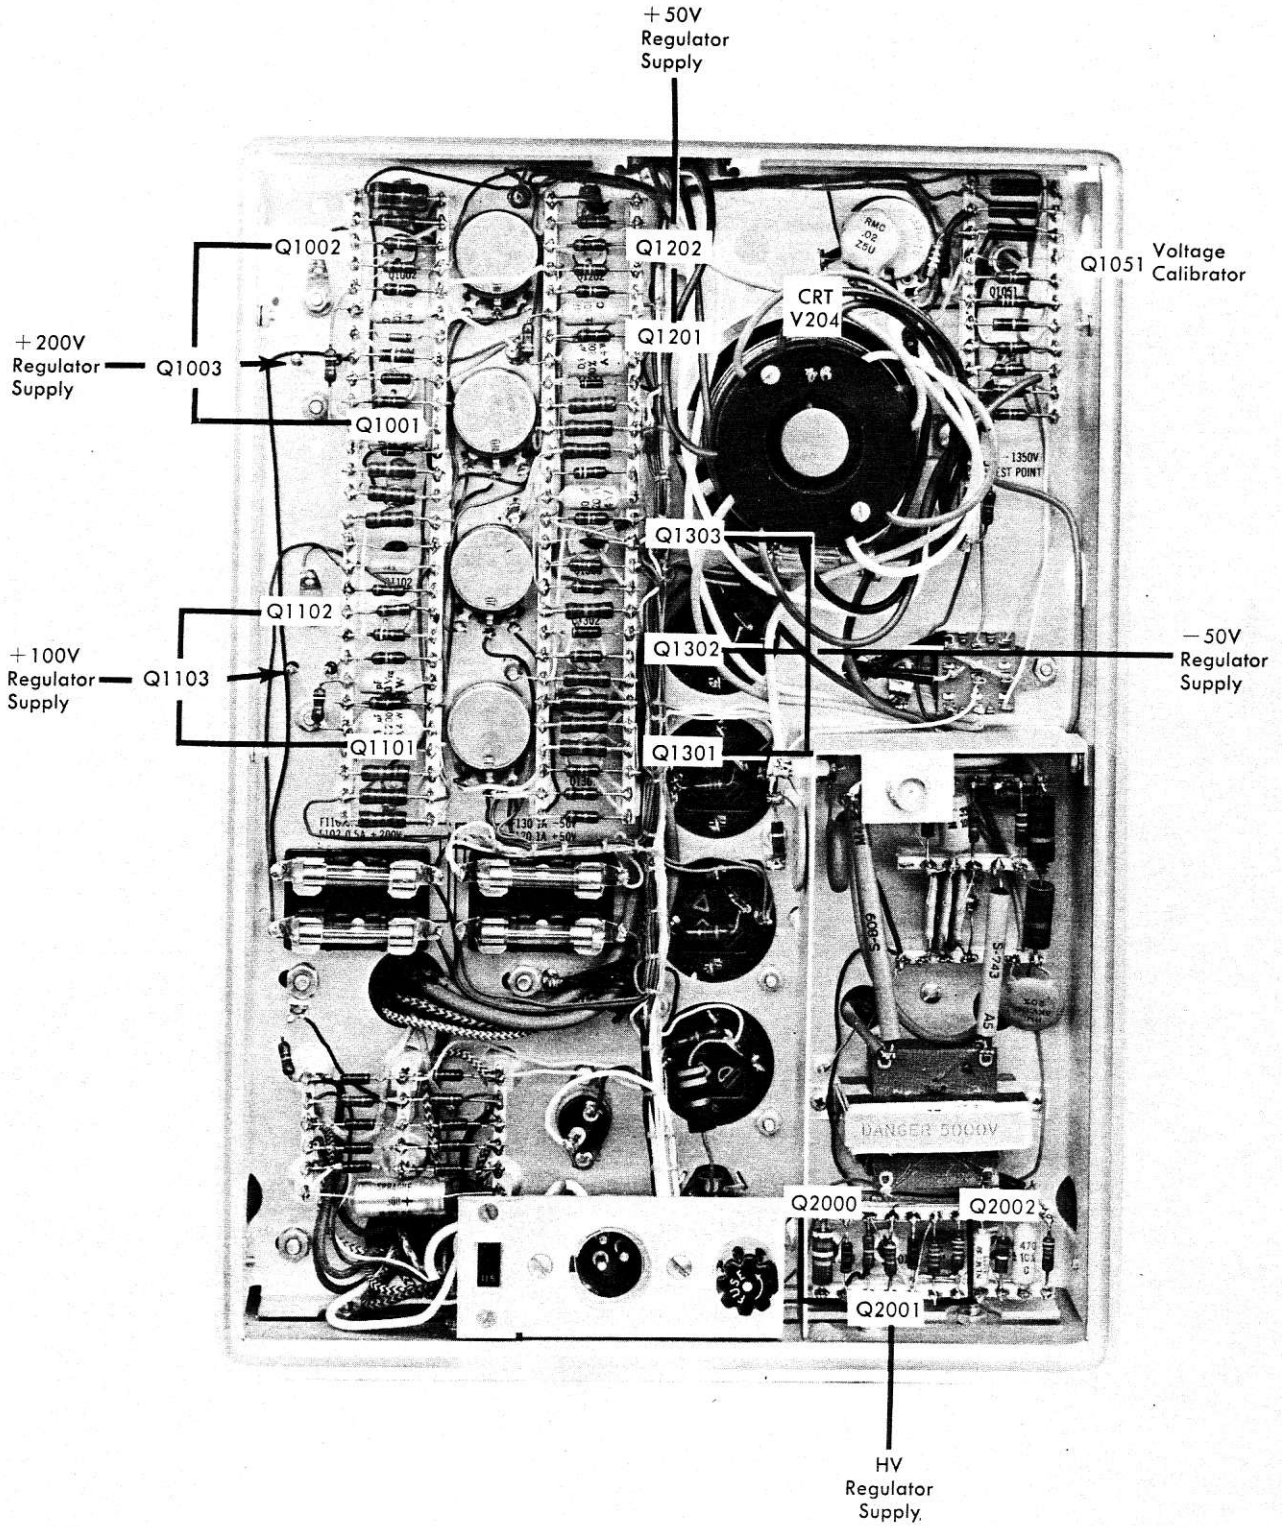

Figure 5-2. Rear View Showing Transistors and CRT
1. If the instrument fails to operate, including the pilot light, check the source of power and determine that the power cord is firmly in place. Then check fuses located at the rear of the instrument. (See Figure 5-2.)